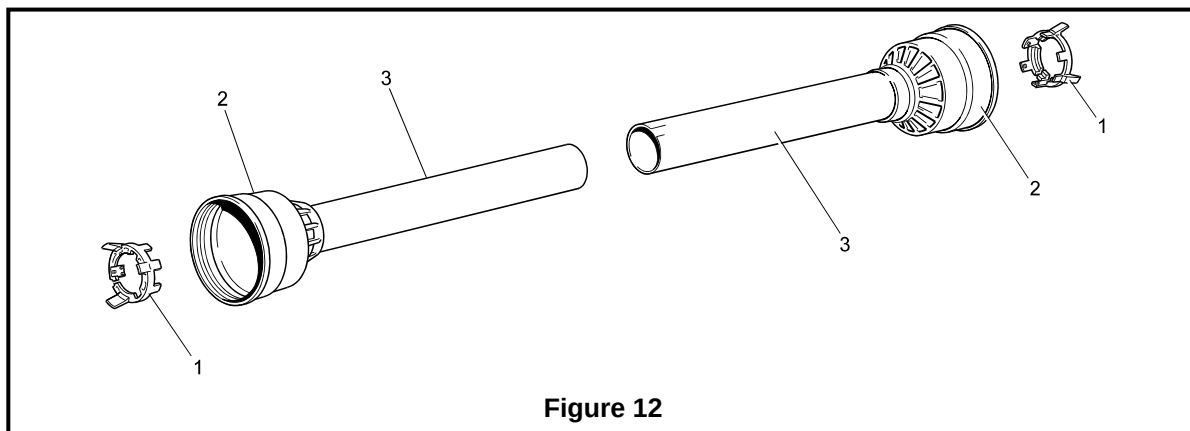

Figure 12
1. Separate the two halves of the PTO shaft and remove the plastic guards from both sections (Figure 12). Release and remove retaining ring catches (1) with a screwdriver. Withdraw cone (2) down length of plastic guard tube (3) and remove. Slide plastic guard tube from shaft; prise open retaining ring and remove from yoke. Assembly is reverse of above procedure.